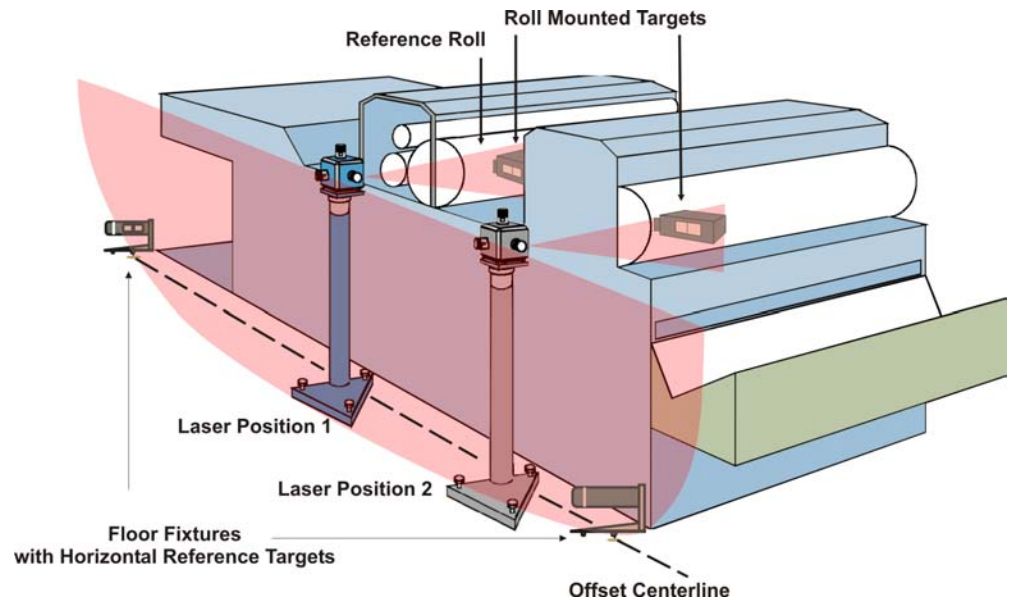
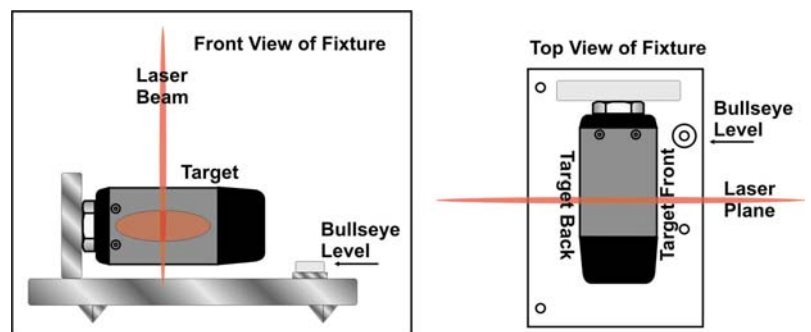
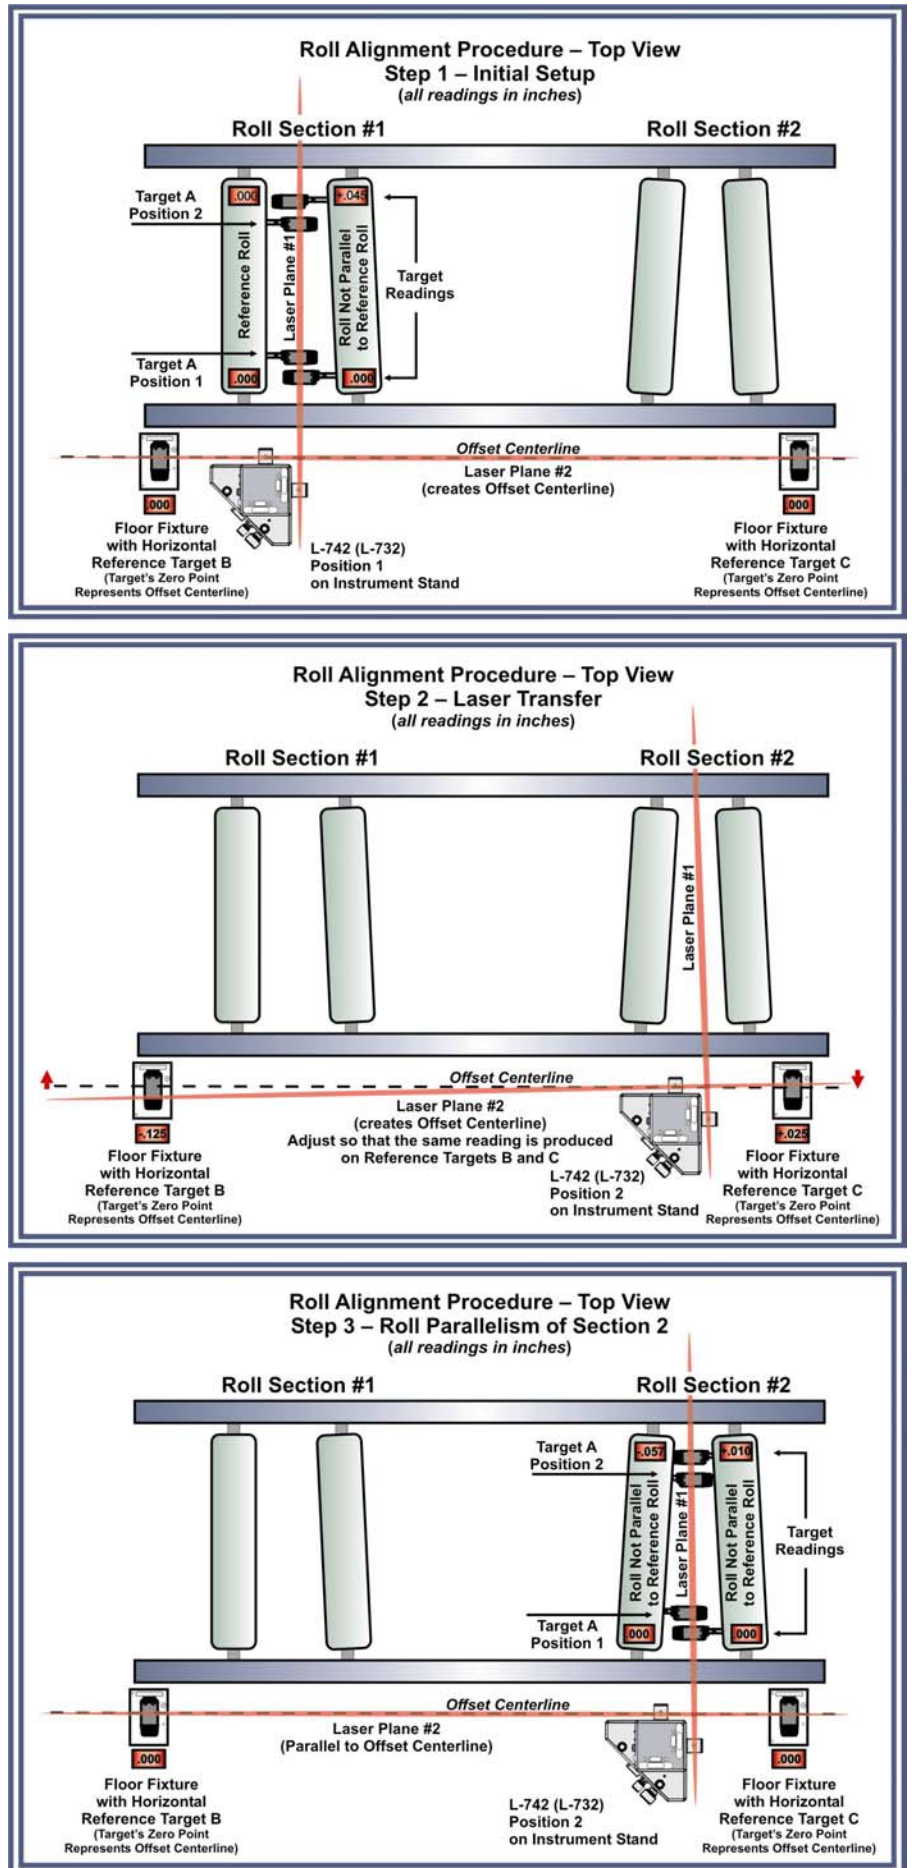

Figure 1 – Dimensional View of Roll Alignment
Figure 2 – Reference Targets Mounted on Floor Fixtures
Figure 3 – Top View of Roll Alignment Procedure
1. Place the laser on an instrument stand near the reference roll at the side of the machine and level using the laser's level vials. Make the vertical laser plane approximately parallel to the reference roll using visual aids (see Figure 1 for a dimensional view and Figure 3 for a top view of the setup).
3. "Buck-in"¹ or adjust the vertical laser until the same reading appears on the two reference targets. The laser plane is now parallel to the reference roll (see Figure 3, Step 1).
offset centerline has a range of 100 feet (30.5 meters) on either side of the laser. To measure other rolls for parallelism, the offset centerline must be temporarily established by placing two reference targets, horizontally, either on floor fixtures (see Figure 2) or on the side frame of the mill (see Figure 1). The reference targets are zeroed, thus becoming the offset reference line and are not touched during the remainder of the alignment.
5. To check the parallelism of an individual roll, move the laser and stand along the offset centerline until the desired roll or section of rolls is reached. Position the laser to allow about 4-5" of horizontal space between the laser plane and the roll to be measured. The instrument is then leveled (see Figure 3, Step 2).
7. Place a target horizontally on the roll closest to the laser and zero. Move the target to the far end of the roll and measure the deviation from parallel (Figure 3, Step 3). Since the readings are live, the roll can then be adjusted until both near and far target positions read zero, which would mean the roll is aligned and parallel to the reference roll. Since the laser generates a plane, rolls at any elevation in that section that are within 2 feet (610 mm) horizontally of the laser plane can be measured for parallelism without changing the setup of the laser.